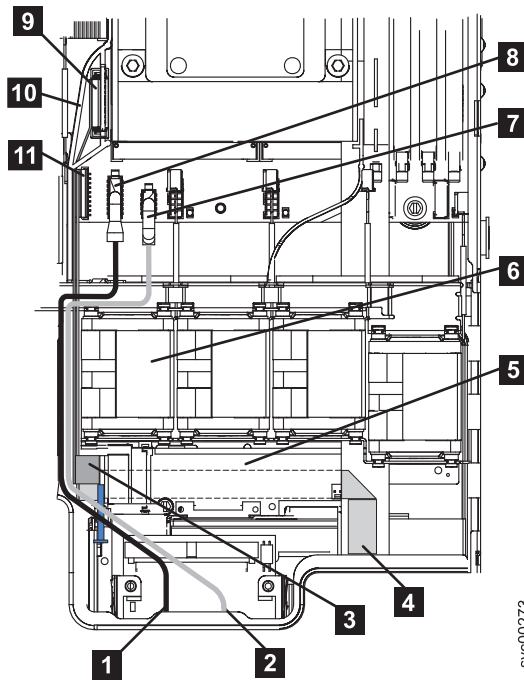

Figure 221. SAN Volume Controller 2145-8G4 video, USB, and the CD/DVD cables
4. Thread the light path assembly ribbon cable **4** back to the system board. Reconnect the cable to the system board socket **11**. In Figure 221, the front of the node is shown at the bottom of the illustration. The connectors on the cable plug go towards the center of the node and the blue side is towards the outside of the node.